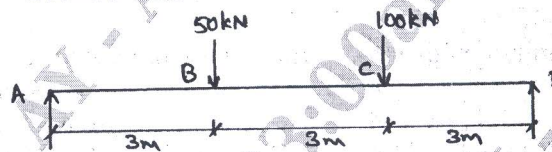

Fig.Q10(c)
- c. Determine the deflection at point B and rotation at A in the beam shown in Fig.Q10(c). Take $E = 200 \text{ kN/mm}^2$ and $I = 200 \times 10^6 \text{ mm}^4$.